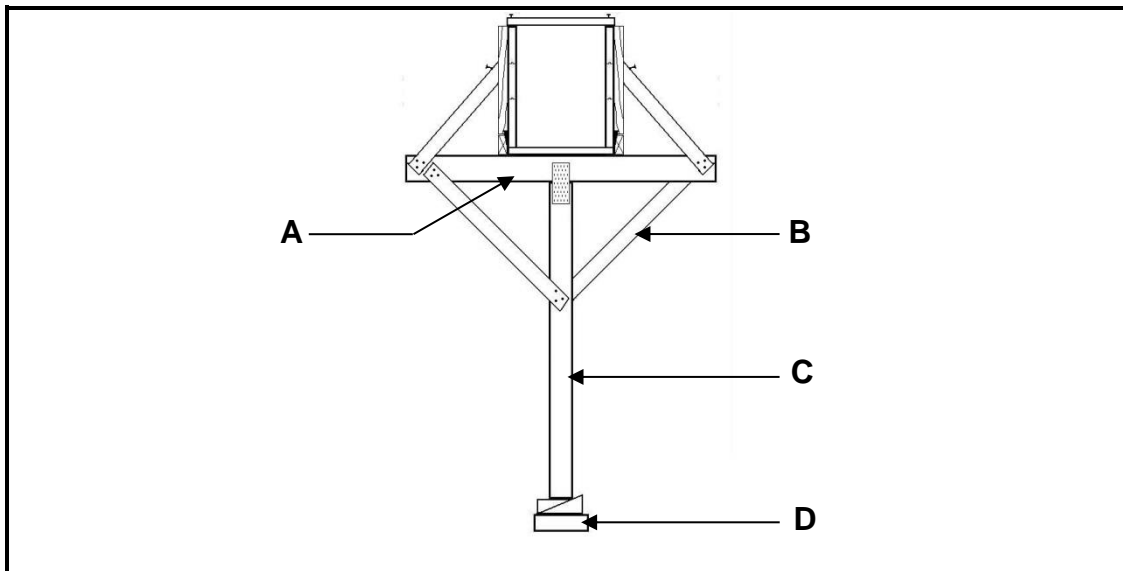

FIGURE 6.2
- 6.2 Answer the following with regard to the formwork in FIGURE 6.2.